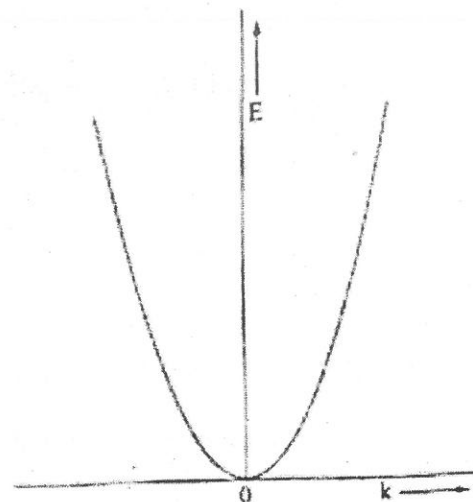

Fig. 2 Electron energy (E) as a function of wave number (k) of free electrons.
Equation (11) represents the energy of a free particle (i.e., electron). From the Fig. 2 it is seen that the energy is continuous. If L is the length of the solid, applying the boundary conditions,